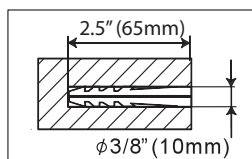
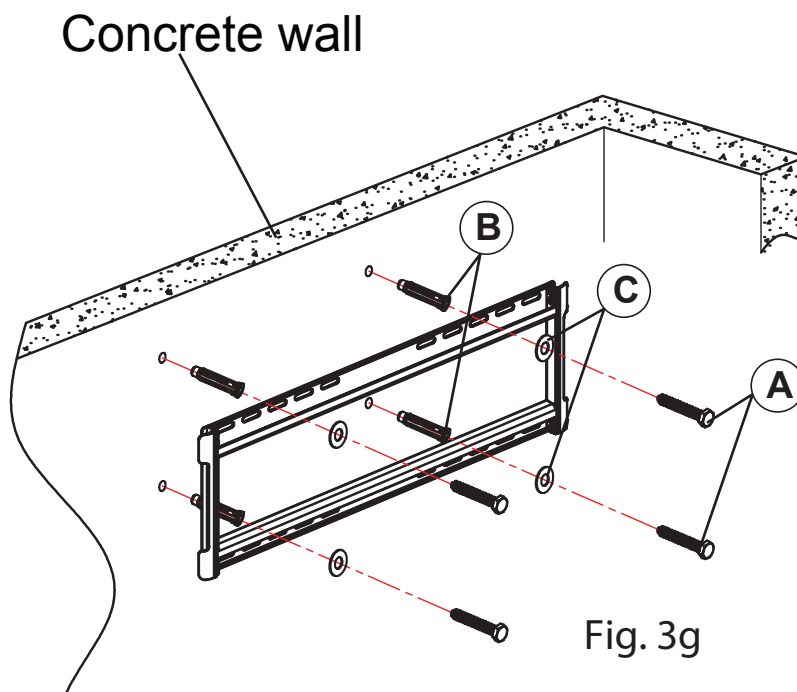

Fig. 3f
Fig. 3g
2. Use 3/8" (10mm) drill bit to pre-drill four holes at least 2.5" (65mm) deep (Fig 3f) at the marked locations.
3. Insert a **Wall Anchor (B)** into each pre-drilled hole and lightly tap it with a hammer until the wall anchor is flush with the wall.
4. Use a wrench, the four **Long Bolts (A)**, and **Washers (C)** to attach the wall mount to the wall with the **Wall Anchors (B)** (Fig 3g).